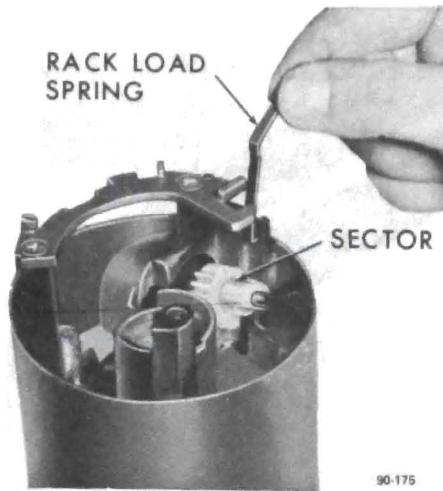

Figure 90-115 Removing or Installing Load Spring
18. Remove the load spring. See Figure 90-115.
3. Insert the rack spring in the housing from the bottom side. The long section should be toward the steering wheel and hook on the edge of the housing. See Figure 90-115.